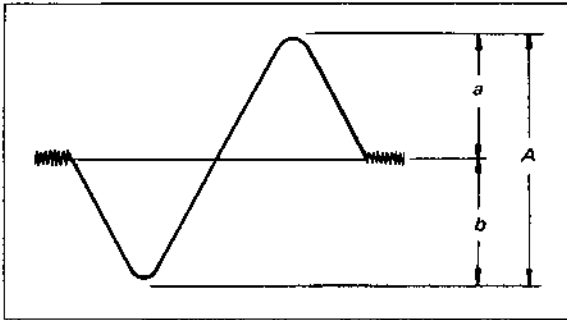

Fig. 3-12 "S" curve response
- Turn the core of transformer FM IFT-E (pink) with an alignment tool to obtain the "S" curve response shown in Fig. 3-12.
- Turn the core of FM IFT-E slightly to equalize the positive and negative peaks, as shown in Fig. 3-12.